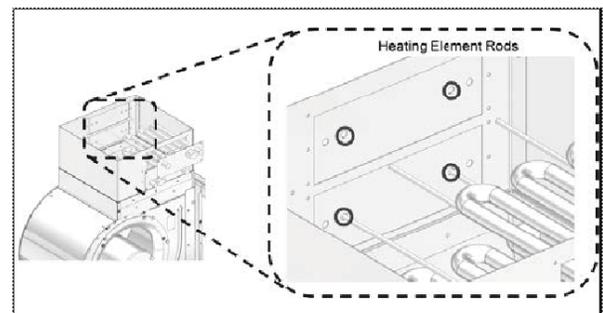

Fig. 7 – Heating Element Rods A210072
6. Remove two (2) wire ties as applicable on element kits (15 & 20 kw).
7. Insert heating element(s) into collar. Heating element rods must be inserted into inner most holes as shown in Fig. 7. This will support and prevent vibration of heater elements.